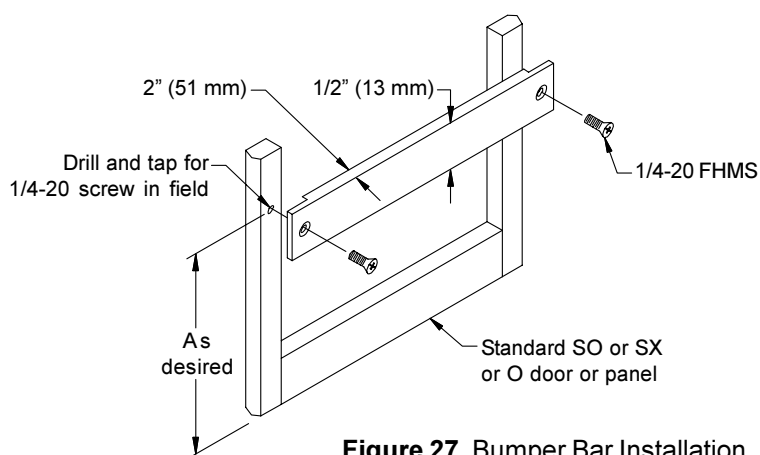

Figure 27. Bumper Bar Installation
2. Refer to **Figure 27** for optional Dor-O-Matic bumper bar installation.